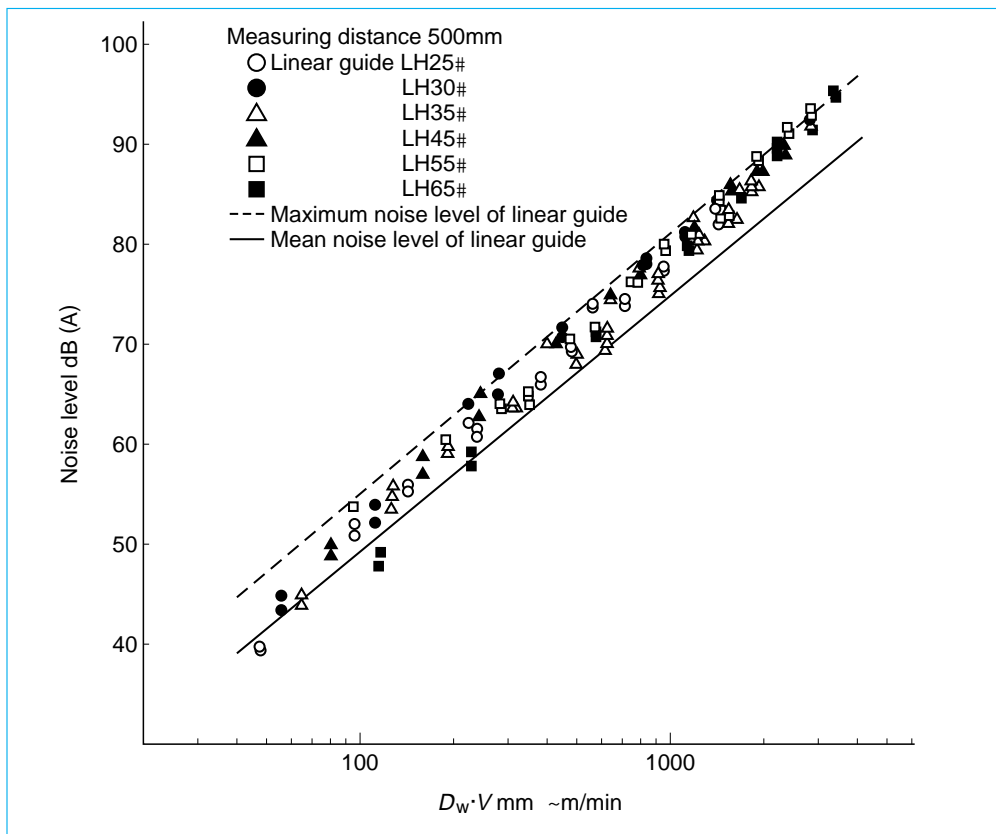

Fig. II-8-1 Noise levels of linear guides
- Fig. II-8-1 is a noise-level data plot. The product of D_w (mm) ball diameter of linear guide and travel speed V (m/min) is shown on the abscissa. The noise level is shown on the ordinate.
Therefore, from Fig. II-8-1, the noise level is 66 ~ 72dB (A).